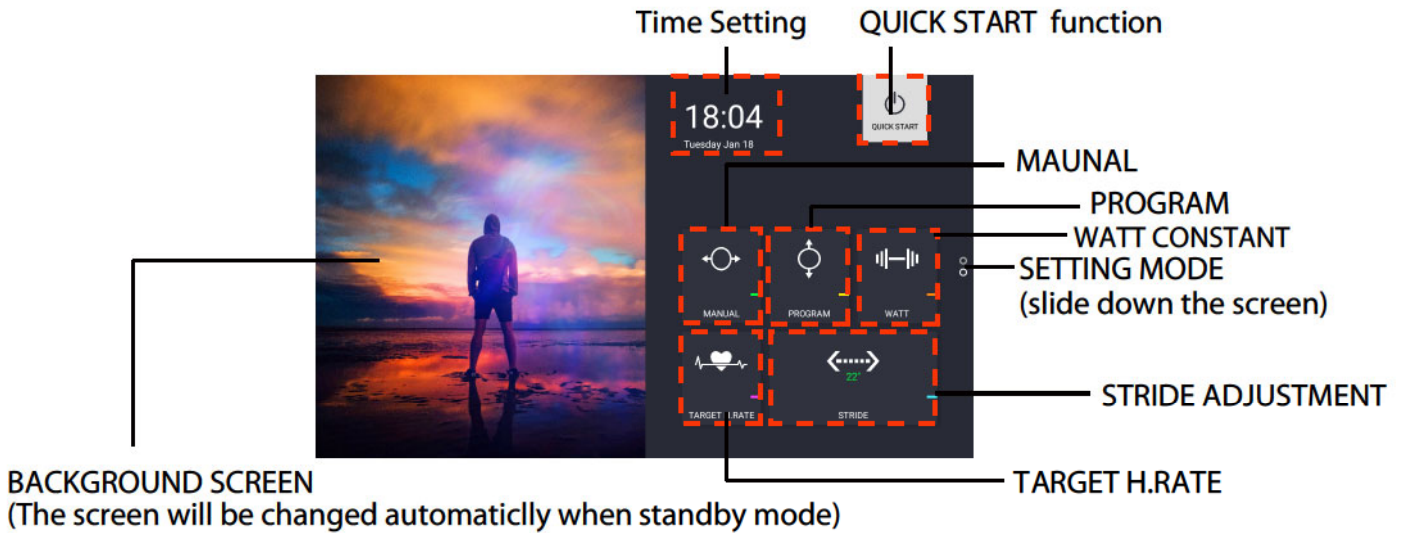
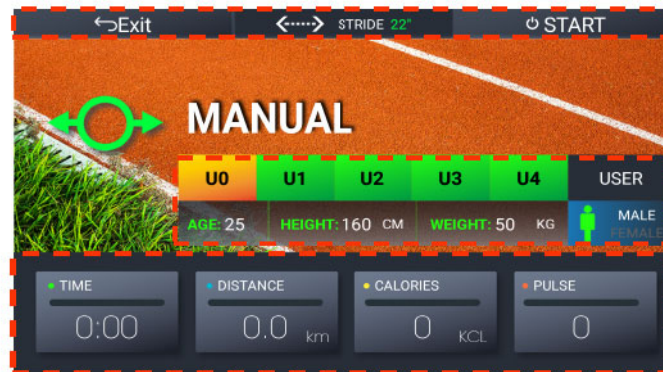

Fig. 3 Functions on the Home Screen
Fig. 15 Manual Mode
- Press the Quick Start Button on the Home Screen (Fig.3)
Press Manual on the Home screen (Fig. 3) to start exercising with several training goals like Time, Distance and Calories. Please check Figure 15.